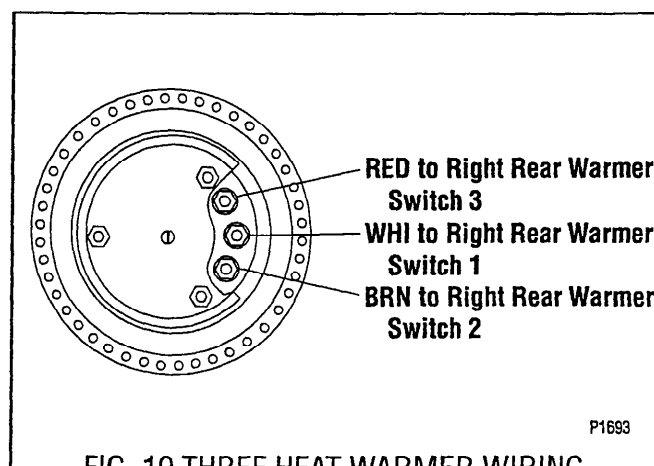

FIG. 10 THREE HEAT WARMER WIRING
4. Refer to FIG. 10 when reconnecting the wires.